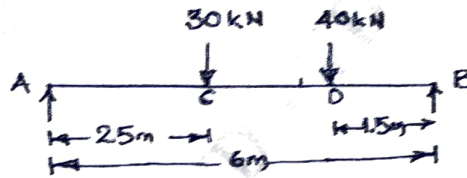

Fig.Q.4(b)
- 4 a. Determine the slope at left support and deflection at mid span of simply supported beam subjected to the loads as shown in Fig.Q.4(a) by using Macaulay's method take  $EI = 200 \text{ MN-m}^2$ . (10 Marks)
b. Determine the slope at A and deflection at mid span for the above beam shown in Fig.Q.4(b) by using moment area method  $EI = 200 \text{ MN-m}^2$ . (10 Marks)